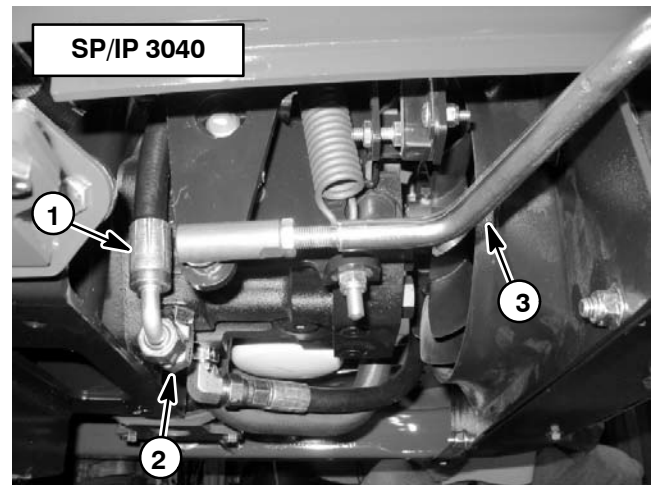

Figure 26
5. Disconnect hydraulic hose from the fitting on the lower right side of the hydrostat (Fig. 26 or 27).
15. Disconnect tester from the hydraulic hose and hydrostat fitting. Reconnect hose to fitting (Fig. 26).